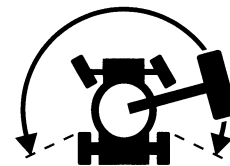

Figure 1
- ⊙ Result: The oscillation lock-out wedges should fully extend when the boom moves past either of the non-steering wheels (figure 1).